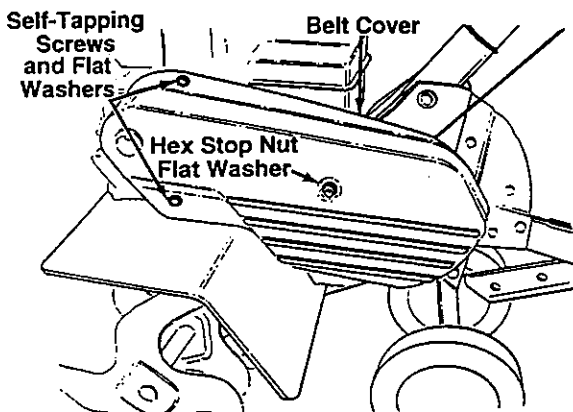

FIGURE 14
- a. Remove two self-tapping screws and flat washers from the front of belt cover. See figure 14.